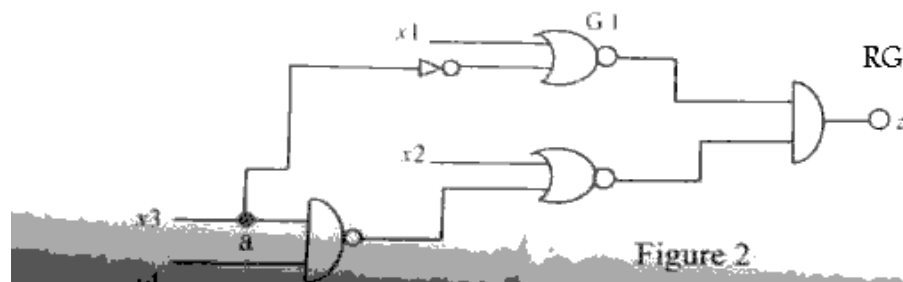

Figure 2
- b) Determine the output function of the circuit of figure 2 for the following faults.